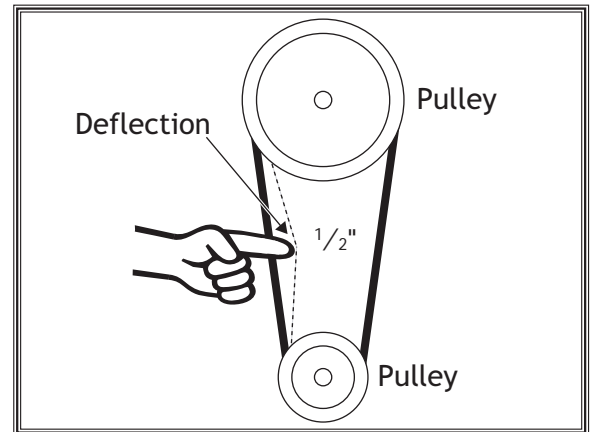

Figure 17. Proper belt deflection.
**Note:** When properly tensioned, the belt should deflect about  $1/2$ " when moderate pressure is applied to the belt mid-way between upper and lower pulleys, as shown in **Figure 17**.